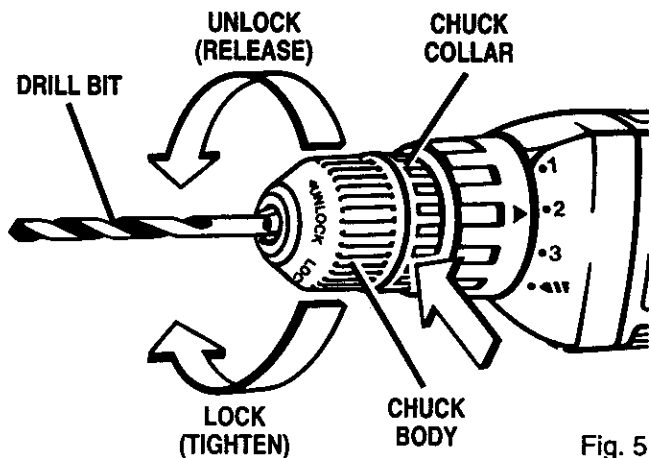

Fig. 5
See Figure 5.
**Note:** Rotate the chuck body in the direction of the arrow marked **LOCK** to tighten chuck jaws. See Figure 5.
- To loosen: grasp and hold the collar of the chuck with one hand, while rotating chuck body with your other hand. **Note:** Rotate chuck body in the direction of the arrow marked **UNLOCK** to loosen chuck jaws. See Figure 5.